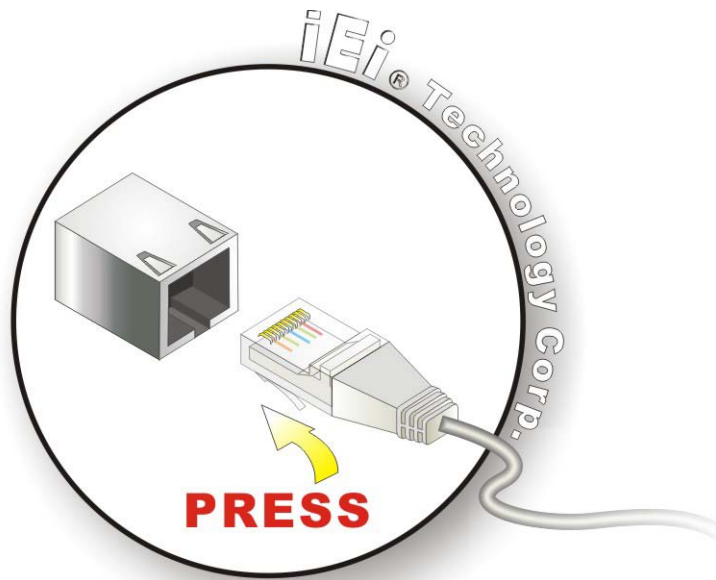

Figure 3-15: LAN Connection
Step 2: Align the connectors. Align the RJ-45 connector on the LAN cable with one of the RJ-45 connectors on the TANK-760. See **Figure 3-15**.